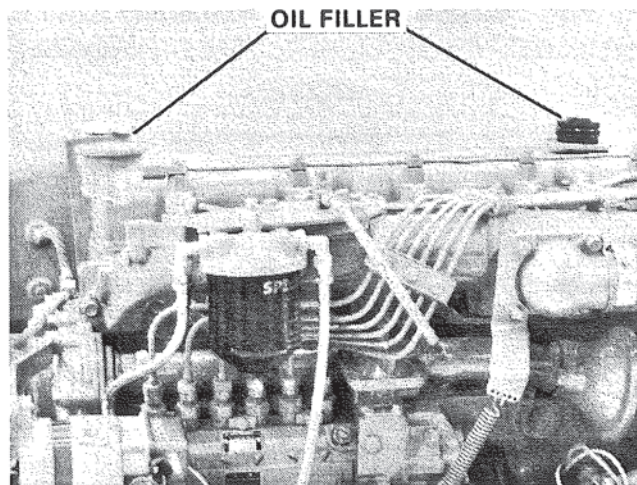

Figure 33. Installing Oil.
5. Install new oil. Figure 33. Fill to full level approximately 9 qts. (8.53 L) for level installation, 8 qts. (7.58 L) for 15° installation. Filter requires about one qt.